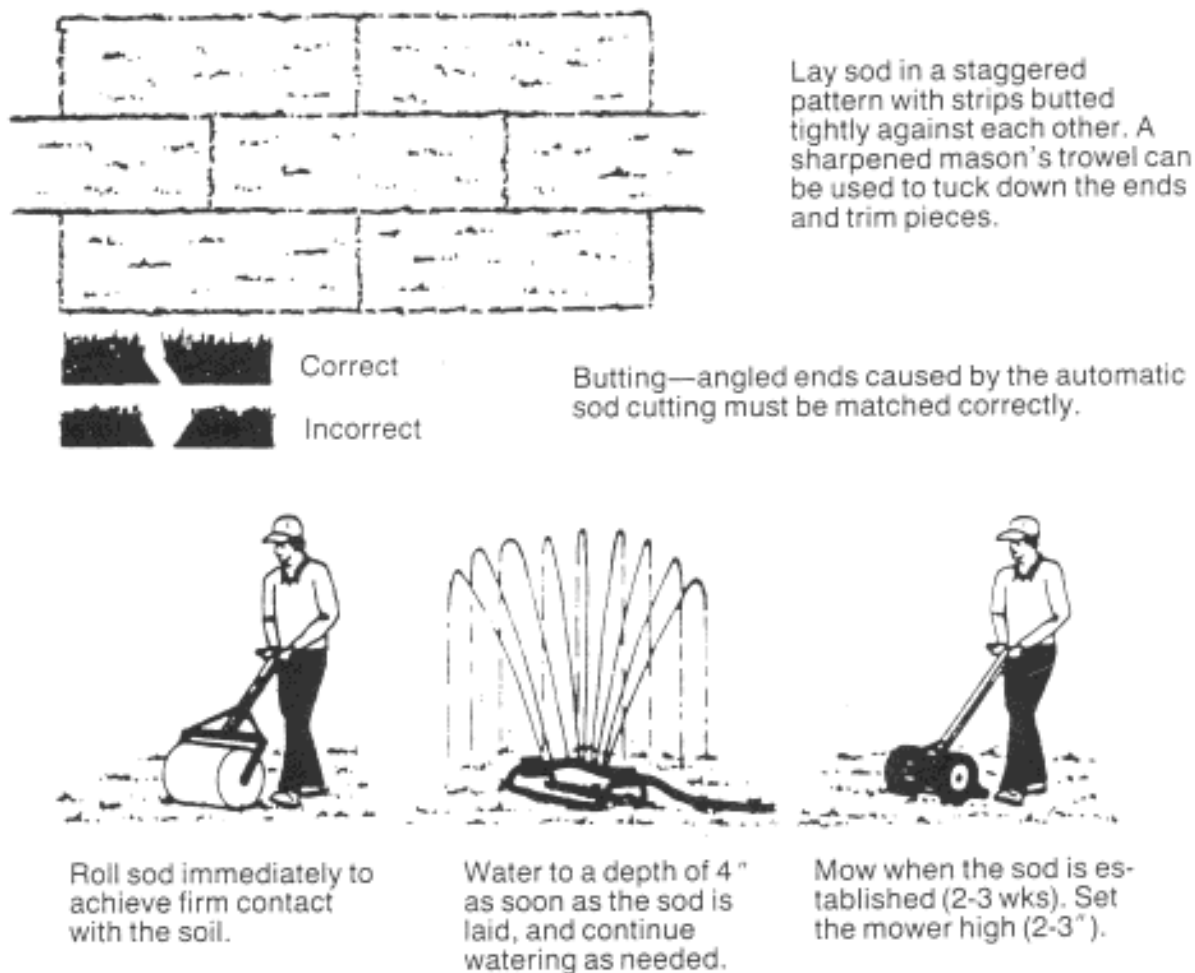

Figure 5-9 Proper installation of grass sod
3. Sod installation. A step-by-step procedure for installing sod is illustrated in Figure 5-9 and described below.